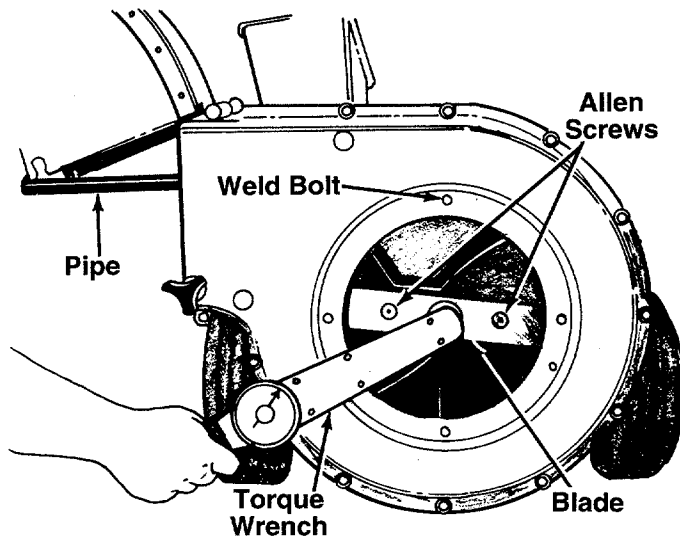

FIGURE 16.
2. Lower the leaf ramp. Block up the housing. See figure 16.